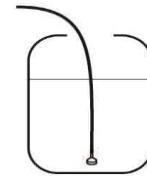

Fig.7
- 2- Insert included dispenser tube inside the detergent or rinse aid tank. (if available). (Fig.7)